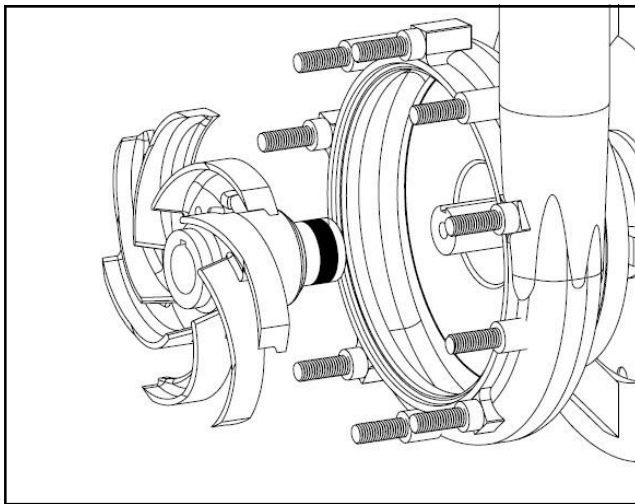

Figure 4
6. Remove the impeller. The seal driver and rotating parts of the seal will come off the motor shaft and adhere to the hub of the impeller. The key will fall into the bore of the impeller, Figure 4.